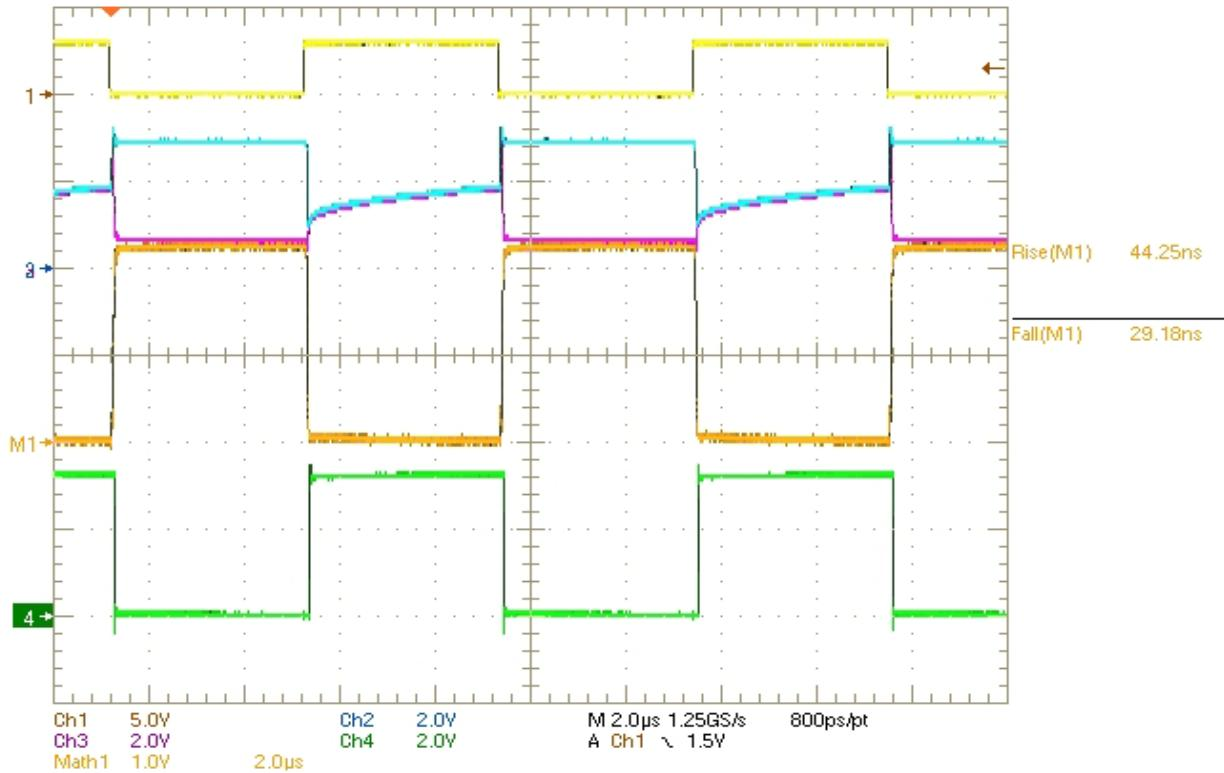
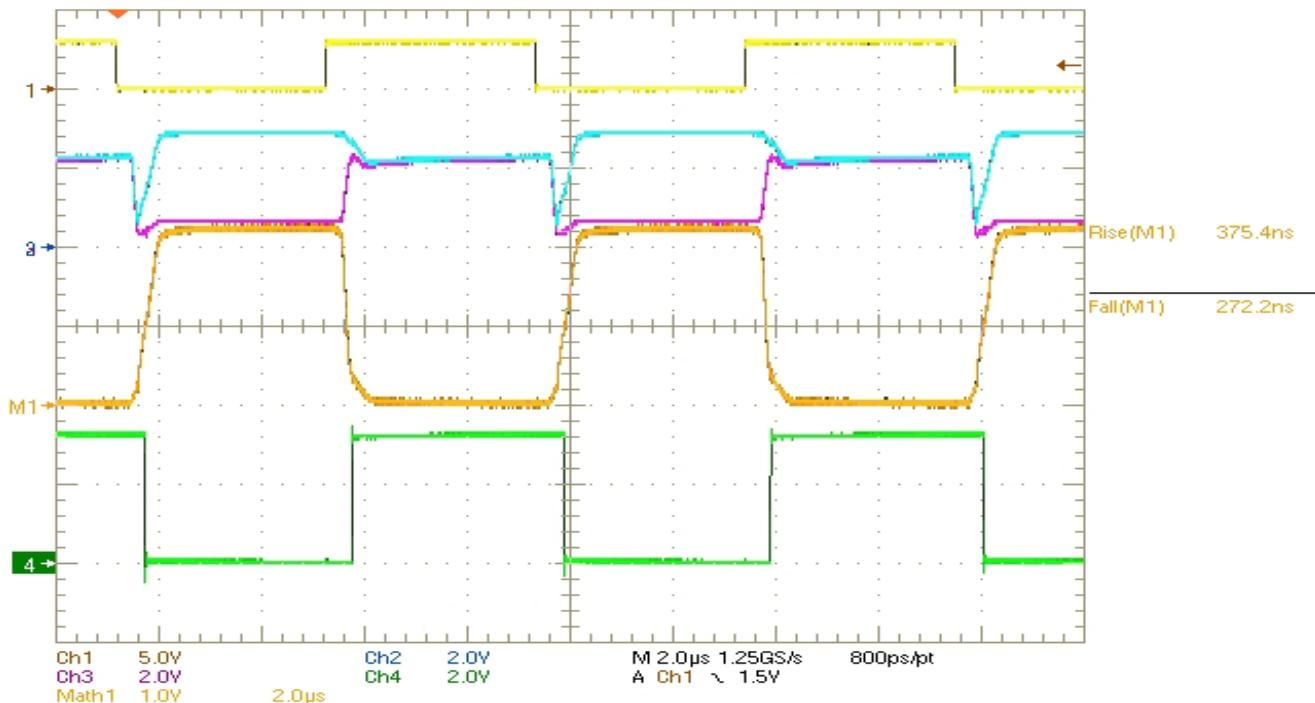
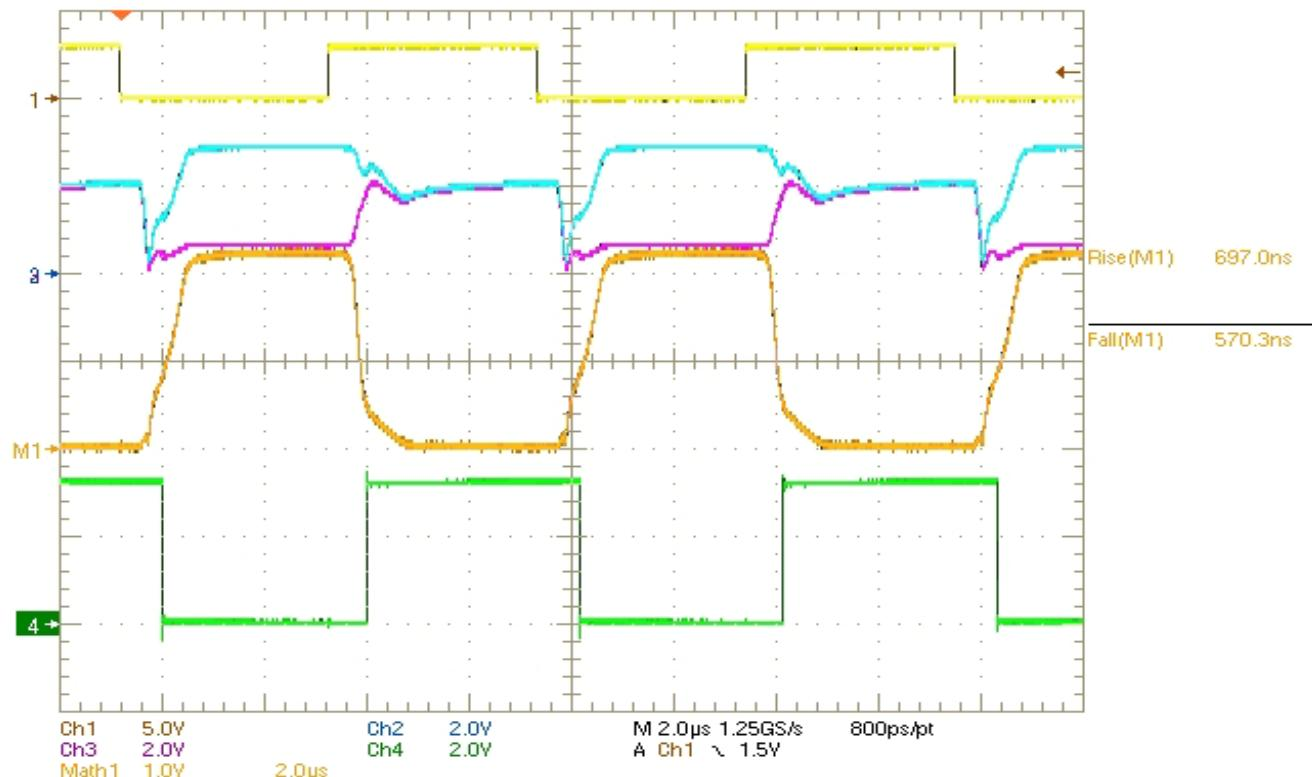

Figure 4.1 Oscilloscope Plot (Fast Speed) Waveforms and Measurements
Figure 4.2 Oscilloscope Plot (Medium Speed) Waveforms and Measurements
Figure 4.3 Oscilloscope Plot (Slow Speed) Waveforms and Measurements
- (5) Use the “Measure” menu on the oscilloscope to set up the following four measurements:
- (6) Ensure that a jumper is installed at J8 (selects fast driver edges by connecting the RS pin to ground) and no jumpers are installed at J5, J6, J7, and J9.
- (7) Enable the function generator. The scope plots should look like the ones shown in Figure 4.1 on page 9.
(8) In fast speed mode (RS = 0V):
(9) Move the jumper from J8 to J7 (selects medium driver edges by connecting the RS pin to ground through a 10k Ω resistor). Note: No jumpers should be installed at J5, J6, J8, and J9.
(10) The scope plot should look like the ones in Figure 4.2 on page 9.
(11) In medium speed mode (RS = 10k Ω):
(12) Move the jumper from J7 to J6 (selects slow driver edges by connecting the RS pin to ground through a 50k Ω resistor). Note: No jumpers should be installed at J5, J7, J8, and J9.
(13) The scope plot should look like the ones in Figure 4.3 on page 10.
(14) In slow speed mode (RS = 50k Ω):